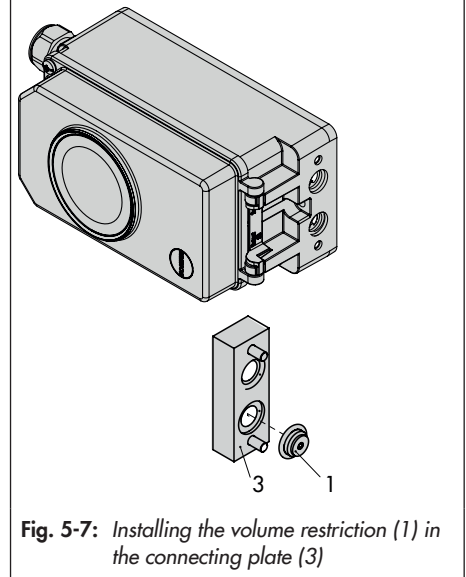

Fig. 5-7: Installing the volume restriction (1) in the connecting plate (3)
2. Carefully push and turn the volume restriction (1) (e.g. using a hex wrench) into the opening (tube) of the signal pressure output at the connection block as far as it will go.
3. Place the connection block (2) against the positioner and the actuator yoke and fasten using the screw.
**Volume restriction on the connecting plate/pressure gauge bracket (see Fig. 5-7)**